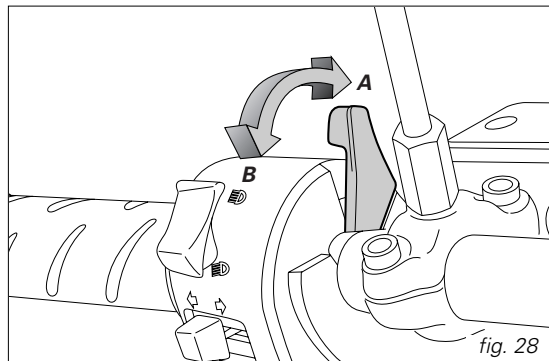

fig. 28
- 2) Move the fast-idle lever to position (B) (fig. 28).